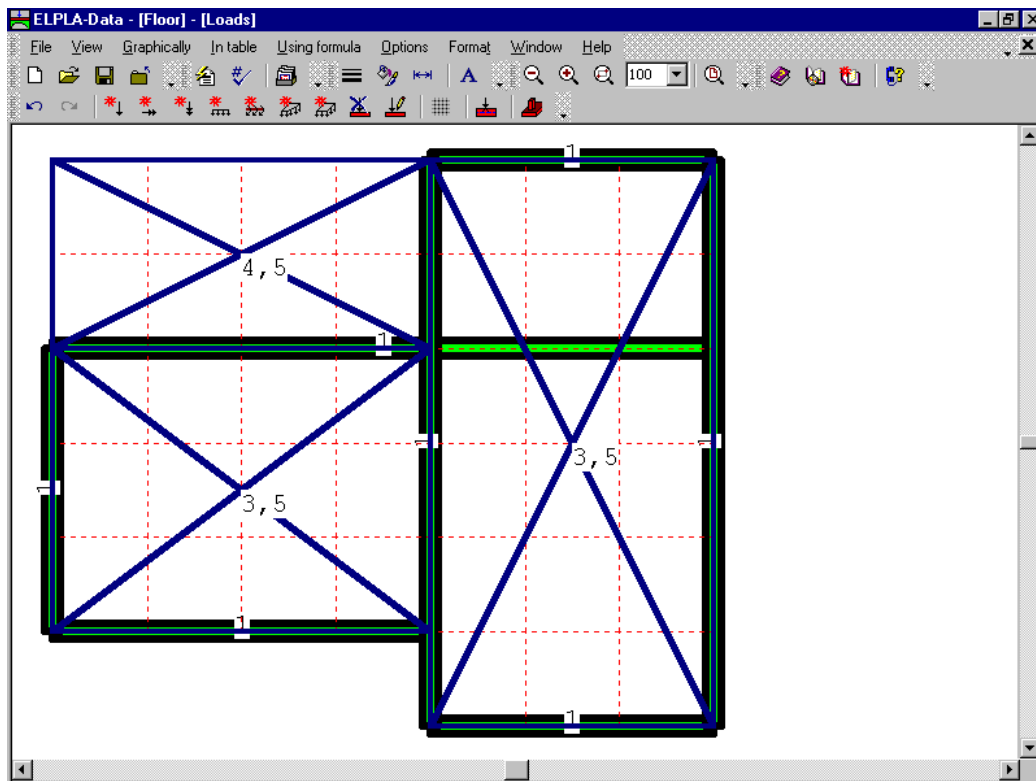

Figure 2-35 Loads on the FE-Net
Repeat the previous steps to enter the remaining distributed loads on the net. After you have completed the definition of all loads on the net, the screen should look like the following Figure 2-35.
- Choose "Save loads" command from "File" menu in Figure 2-35 to save the load data
- Choose "Close loads" command from "File" menu in Figure 2-35 to close the "Loads" embedded program and to return to the main window of *ELPLA-Data*